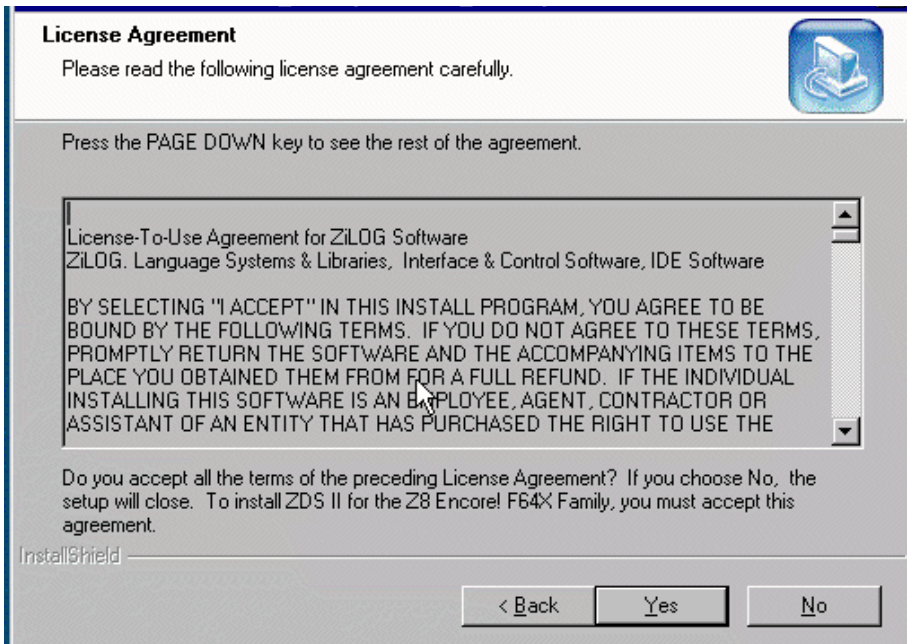

Figure 6. License Agreement (Reference Only)
2. Click Next> to continue with the installation. The License Agreement appears (Figure 6).